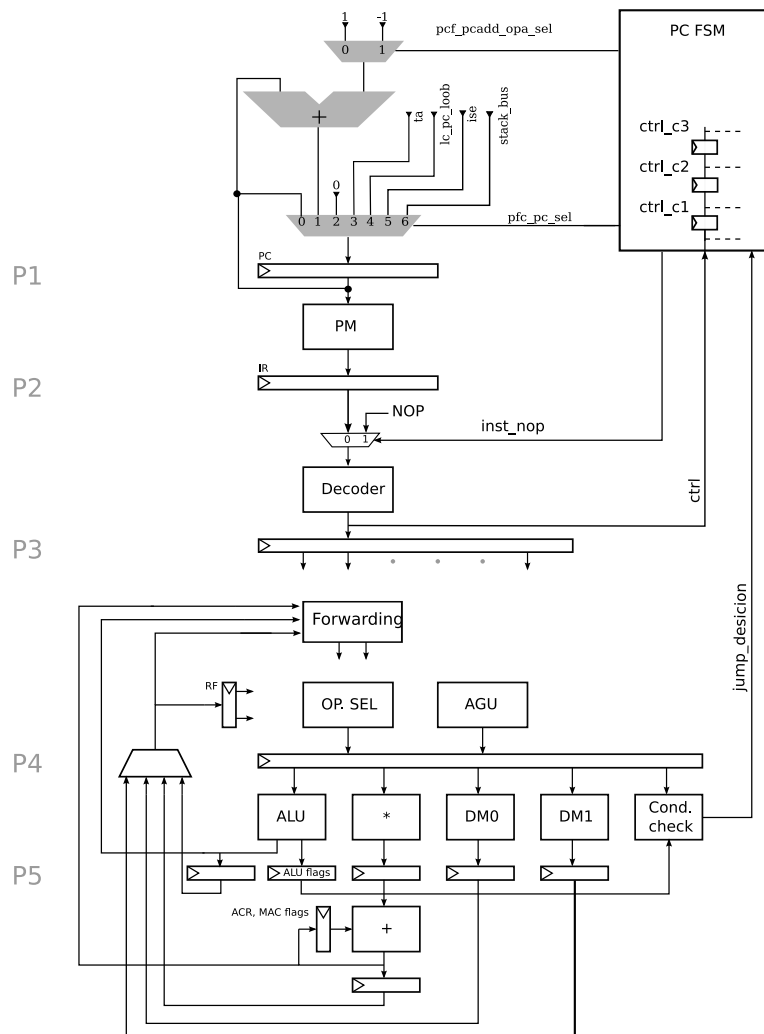

Figure 3.1: The normal pipeline, including PFC details.
During all execution, instructions are fetched from the program memory (PM) using the program counter (PC) as the address. An instruction decides the values of all the control signals in the processor. An instruction usually has fewer bits than there are control signals in a processor, thus the instruction must be converted into its control signals before it is of any use. And that is the task of the instruction decoder. The instruction decoder, situated in pipeline stage P2 in the processor according to Fig. 3.1, has two sub modules; `id_decode_logic` and `id_pipeline_logic`. Verify this by open `instruction_decoder.v`. Your first task is to briefly describe what the two modules do. It is important that you understand how the pipeline in Fig. 3.1 works to complete this lab.
In Listing 3.1 a small program is defined. Your task is to fill out a pipeline table as described in Section 3.5. Detailing how the instructions progress in the pipeline. You can refer to the instructions as the line number they are defined on in Listing 3.1. Set PC to zero for the first instruction (on line 2). When doing this exercise look at the pipeline of the processor, shown in Fig. 3.1, and think about what instructions are in each pipeline stage.
As shown in Fig. 3.1, the PC FSM takes inputs from the instruction decoder (the `ctrl` signal) and the condition checker (the `jump_decision` signal). It outputs two signals, `pc_add_opa_sel` and `pc_sel` to the program counter (next PC block). The program counter will update the PC value according to these two control signals from PC FSM.